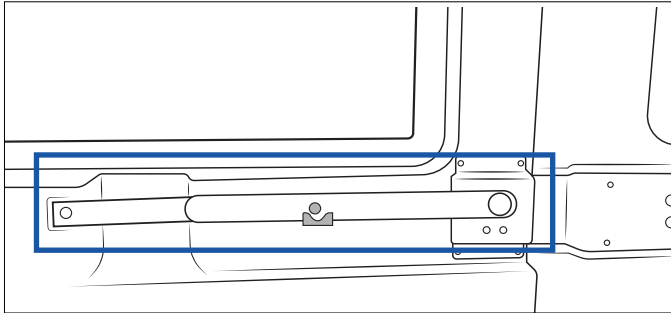

Figure 7 - Rear or side emergency door handle (inside view)
- Pull the handle up and push the door outward (**Figure 7**).